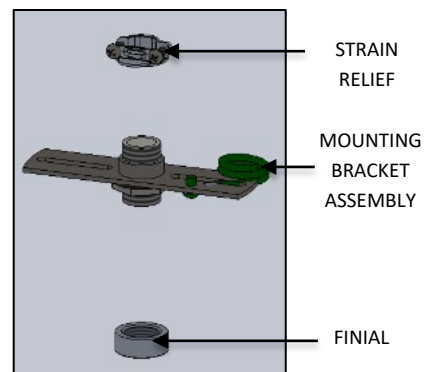

FIG. 6 MOUNTING KIT CONTENTS
- b. MOUNTING KIT (as shown in FIG. 6)